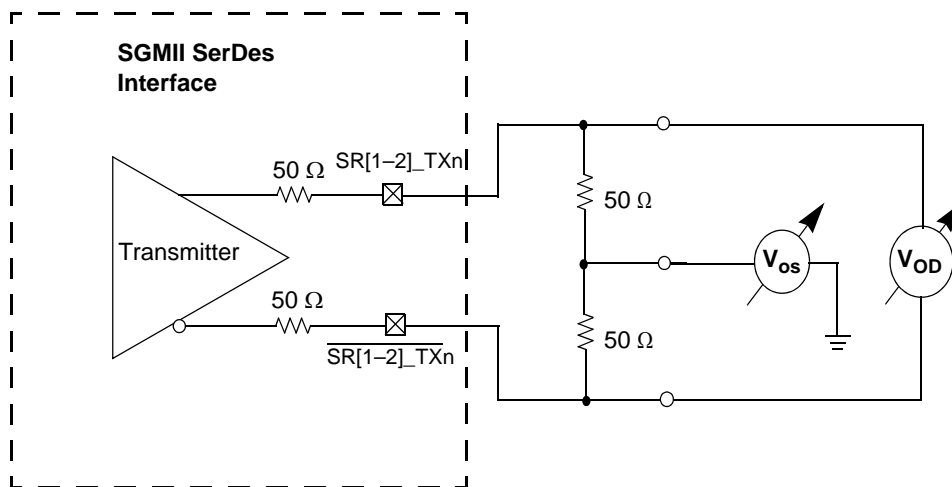

**Figure 5. Receiver of SerDes Reference Clocks**
The SerDes reference clock inputs are applied to an internal PLL whose output creates the clock used by the corresponding SerDes lanes. The SerDes reference clock inputs are  $\text{SR1\_REF\_CLK}/\overline{\text{SR1\_REF\_CLK}}$  or  $\text{SR2\_REF\_CLK}/\overline{\text{SR2\_REF\_CLK}}$ . Figure 5 shows a receiver reference diagram of the SerDes reference clocks.
- The  $\text{SR}[1-2]_{\text{REF\_CLK}}$  and  $\overline{\text{SR}[1-2]_{\text{REF\_CLK}}}$  are internally AC-coupled differential inputs as shown in Figure 5. Each differential clock input ( $\text{SR}[1-2]_{\text{REF\_CLK}}$  or  $\overline{\text{SR}[1-2]_{\text{REF\_CLK}}}$ ) has on-chip 50- $\Omega$  termination to  $\text{GND}_{\text{SXC}}$  followed by on-chip AC-coupling.